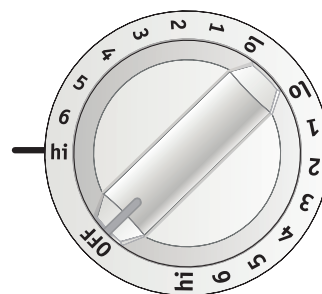

Figure 2
The cooktop is equipped with one or two dual radiant surface element. Symbols around the knob are used to indicate which coil of the dual radiant element will heat. The small digits on the control knob indicate that only the inner coil will heat (Fig. 2). The large digits on the control knobs indicate that both inner and outer coils will heat (Fig. 3). You may switch from either coil setting at any time during cooking.
2. Push in and turn the control knob as shown in Figure 2 for smaller cookware or in Figure 3 for larger cookware.